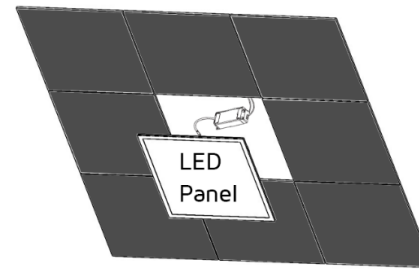

Fig.4a
Step 4: Move the LED Panel into the ceiling grid aperture and ensure the LED Panel is mounted securely, Fig.4a. Finally, turn on the mains supply to check the panel is working correctly, Fig.4b.